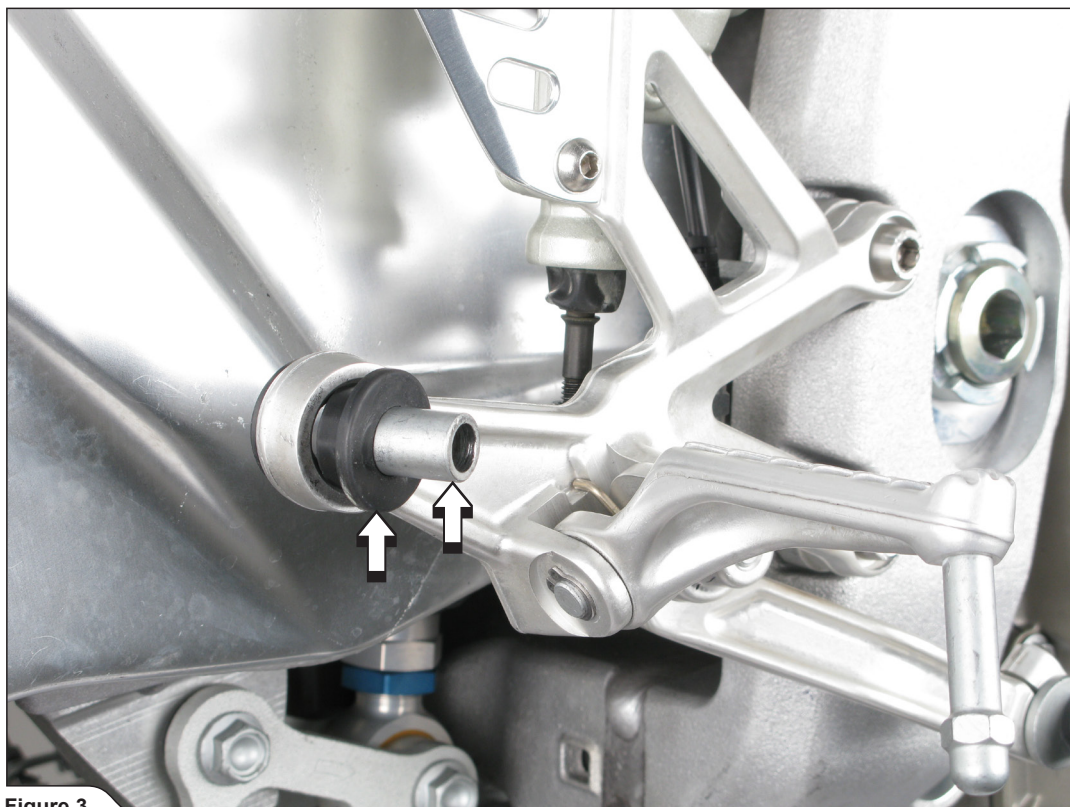

Figure 3
3. Remove the metal collar and rubber damper from the muffler hanging bracket (**Figure 3, 4**).